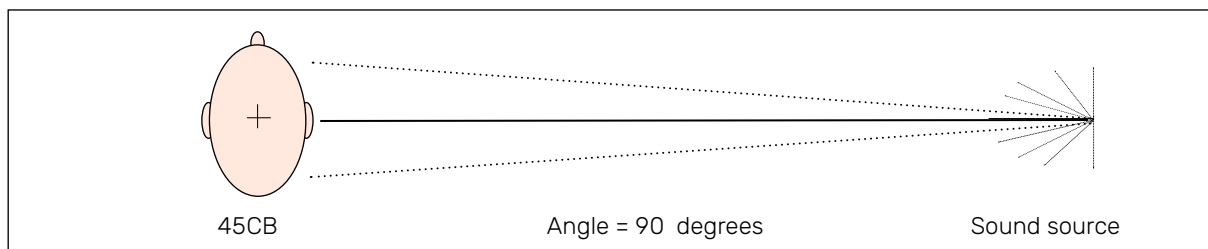
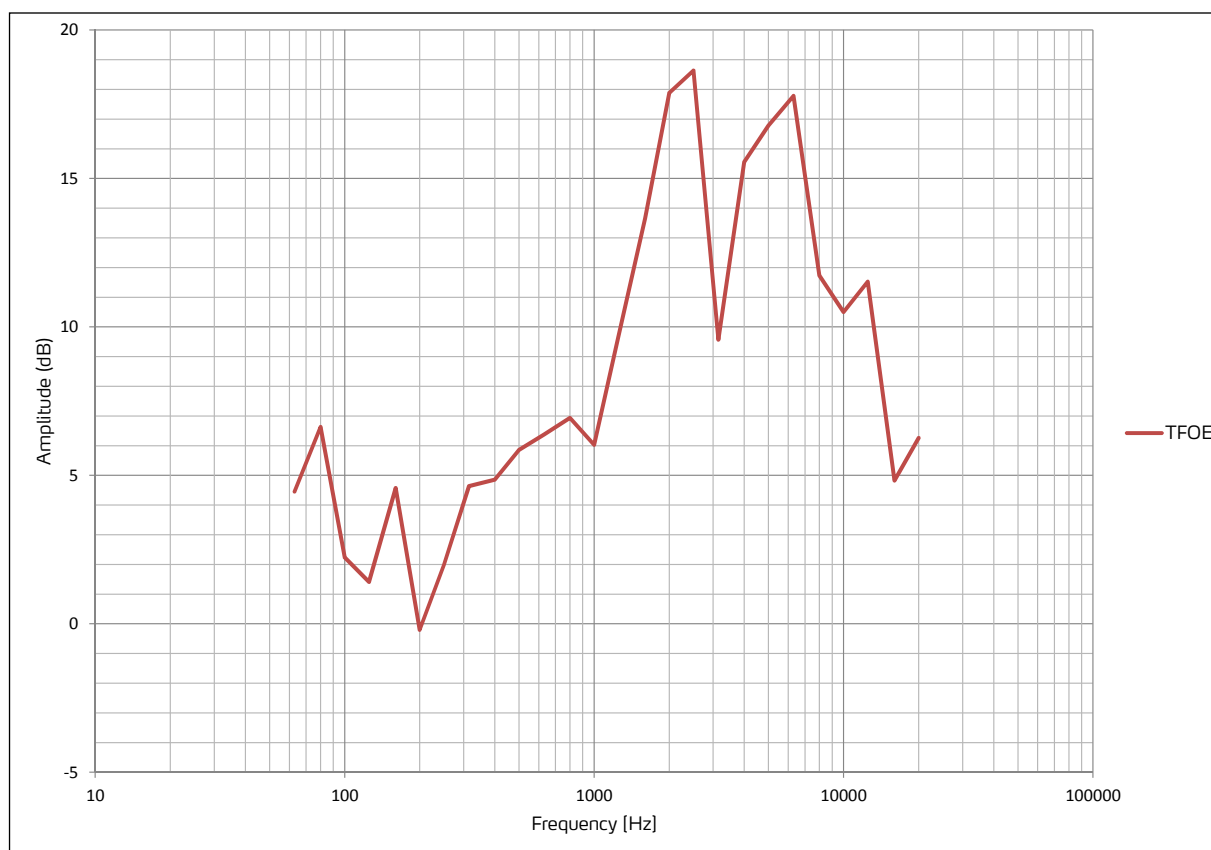

Fig. 28. Top view of the 45CB positioned for measuring normal incidence.
Fig. 29. Typical transfer function of open ear at 170 dB for the 45CB, normal incidence.
- The **Normal Incidence** TFOE for the 45CB at 170 dB is illustrated by Fig. 28 and Fig. 29. The 45CB is at a 90° angle to the sound source so the sound wave reaches the microphone diaphragm directly.